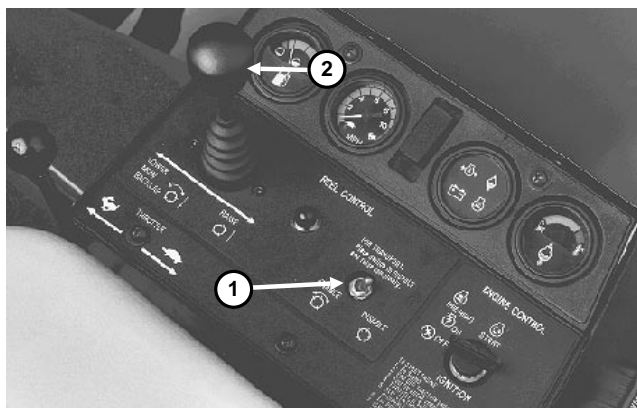

Figure 20
1. Put the machine on a clean, level surface, lower cutting units, stop the engine, engage the parking brakes, move the enable/disable switch to DISABLE and remove key from ignition switch (Fig. 20)